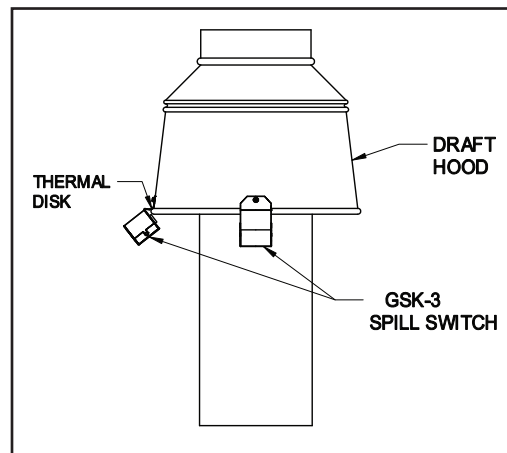

Figure 7
1. Mount the GSK-3 on the lower edge of the draft hood with the exposed thermal disk directed into the draft hood. (See Figure 7)